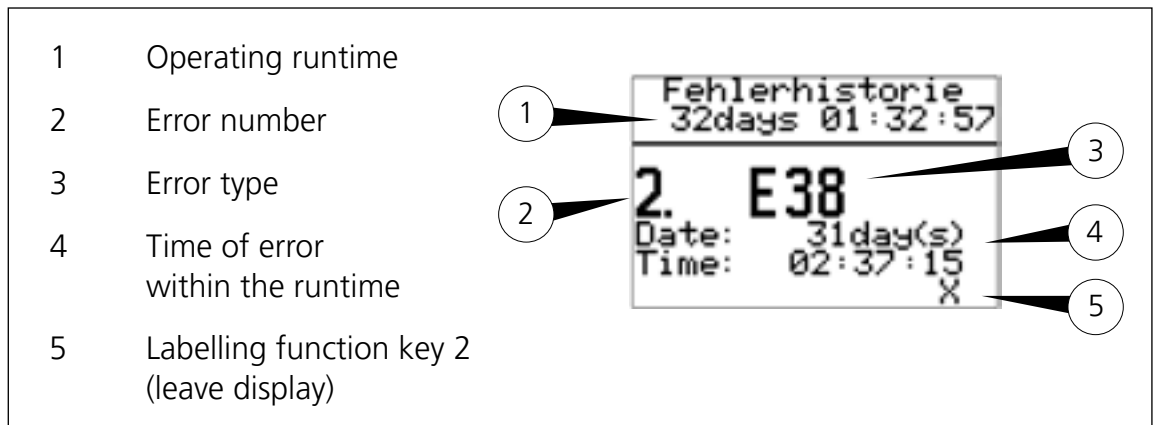

Figure 14 - Display for error history
->> The error history display will open as shown in Figure 14.
The error history display as shown in Figure 14 provides the following information:
- The control has been operating for 32 days, 1 hour, 32 minutes, and 57 seconds. (Figure 14, No. 1)
- The second error within the runtime is currently being displayed. (Figure 14, No. 2)
- The error that has occurred is error E38 (for its meaning, see chapter 6.10).(Figure 14, No .3)
- The error was documented at a runtime of 31 days, 2 hours, 37 minutes, and 15 seconds (Figure 14, no. 4). The moment of the error can be calculated from the difference between the current operating runtime (32 days 01:32:57) and the time of the error within the runtime (31 days 02:37:15). Accordingly, the error occurred 22 hours, 55 minutes, and 42 seconds ago.